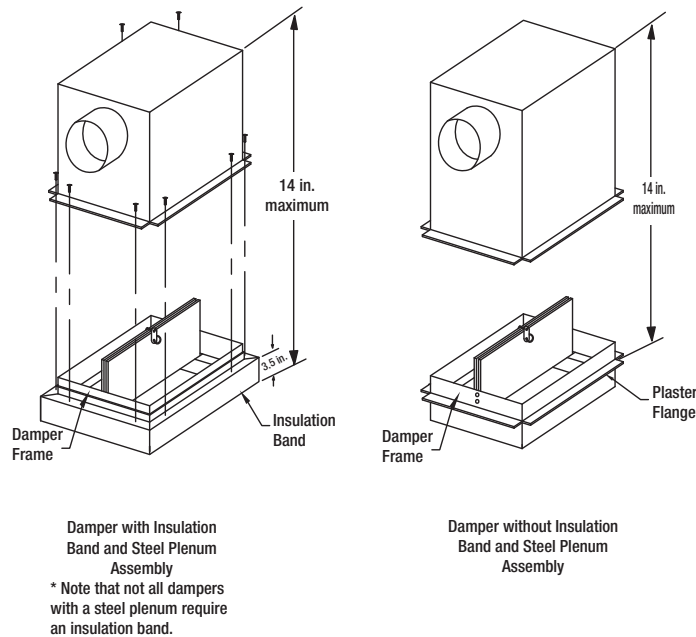

Figure 9
- 4) The steel plenum box is to be attached to the damper using a #8 screws, $\frac{1}{8}$ in. (3mm) rivets, spot welds, or tack welds. Minimum of two per side (**Figure 9**).